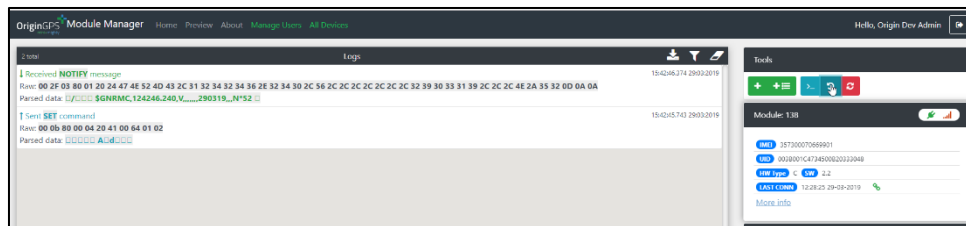

Figure 20. Loopback Message Displaying System-Server Link Status
- ◆ **The Loopback button** 🔄 initiates a loopback test to confirm the link status between the system and the server. To check the connectivity status of the status, execute a loopback test by pinging the module (this test checks the connectivity of the module to the server, not the link state or status of peripheral sensors/devices). The structure of the loopback test message is depicted in the *OriginSmart™ API Specifications* document. The messages sent and received from the module appear in the log area (Figure 20). If the module has not connected to the server, a success notification message is not sent.